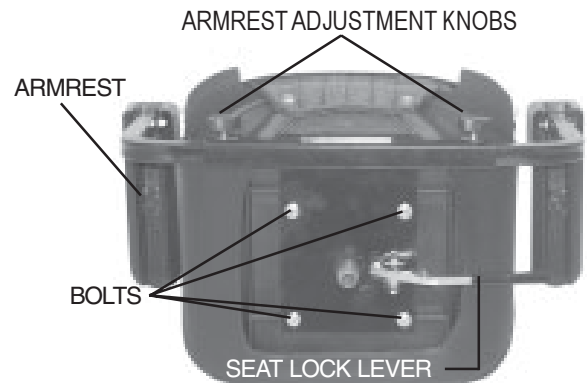

FIGURE 13. SEAT ADJUSTMENTS
1. Pull up on the seat lock lever to unlock the seat. See figure 13.
The scooter armrest width can be adjusted inward or outward. See figure 13.
You can reposition the scooter's seat forward or rearward to one of three settings, thereby adjusting the distance between the seat and the tiller. See figure 13.